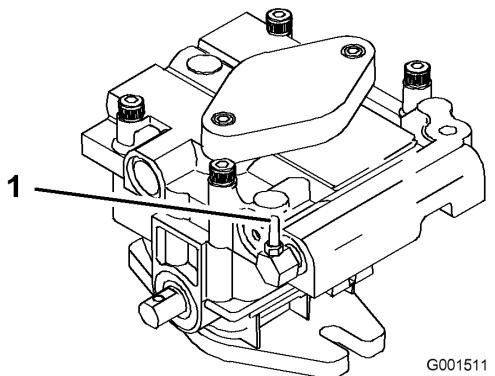

Figure 13
2. Open the by-pass valves by turning them counter clockwise 1 to 2 turns. This allows hydraulic fluid to by-pass the pumps and the wheels to turn (Figure 13).